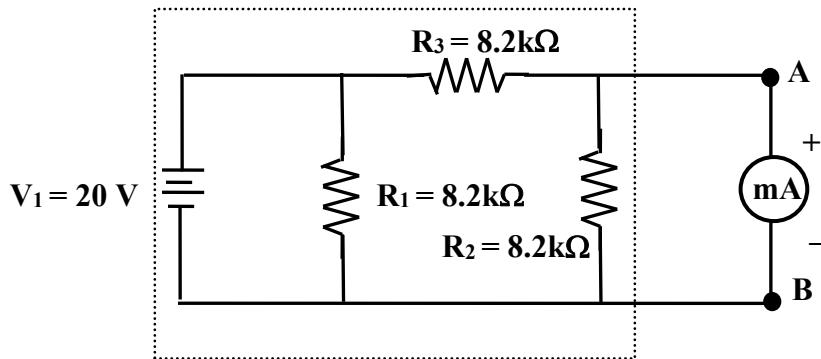

Figure 5: Measurement of I_N (short circuit current at AB)
2. Connect the circuit drawn (Figure 5) in step 1 and measure I_N (short circuit current) and tabulate in Table 1.